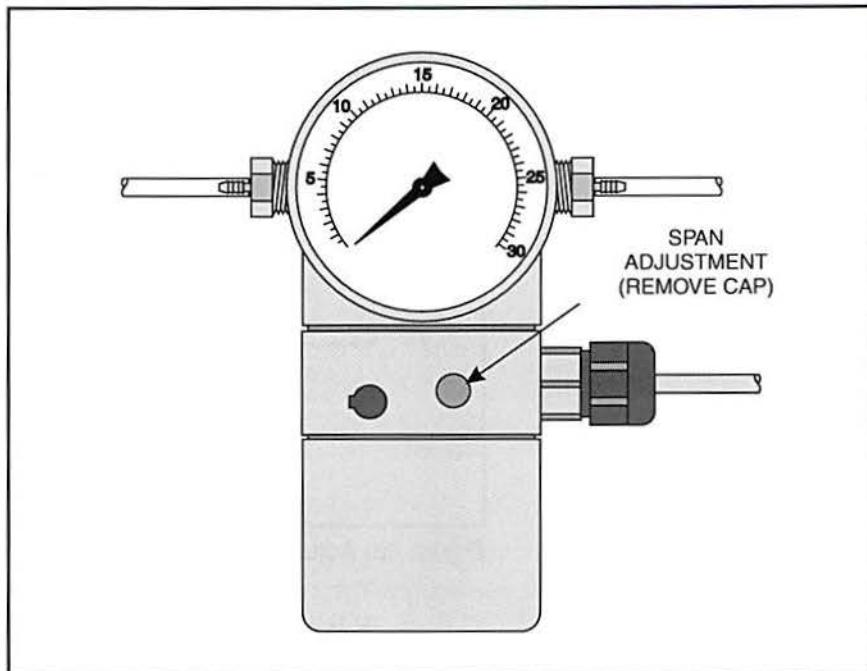

Figure 27. The Span Adjustment Screw
- E. Now, locate the span adjustment screw on the I/P converter, as shown in figure 27.
A rubber cap also conceals this screw, as figure 27 also shows.